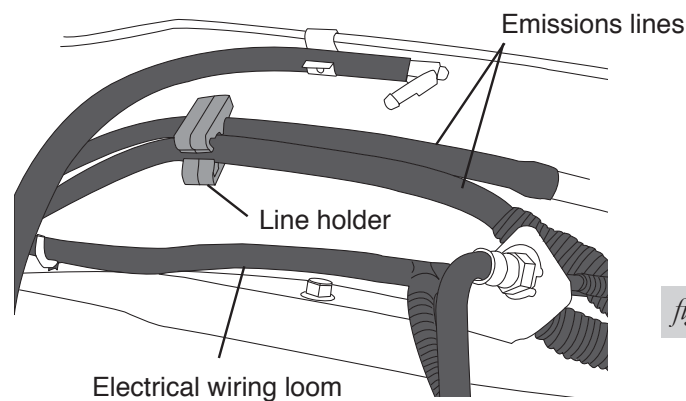

fig. 3
*If your model truck has emission lines running along the inside of the frame rail (Fig. 3), it will be necessary to relocate those lines as follows. Follow the directions in the section, "Attaching the Assemblies to the Frame" for reattaching these lines.*
- *Carefully push the line holder out of the frame above the axle. Try to minimize damage because it will be reused later. It may also be helpful to remove any holders forward or rearward of the axle to aid in positioning the lines once the upper bracket has been installed (Fig. 3).*